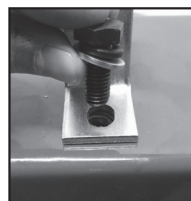

Fig 1
2. Locate and insert the fastening bracket bolts **(16)** through the square fastening brackets **(1)** and into the top of the electric lifting hoist body and tighten securely **(fig 1)**.